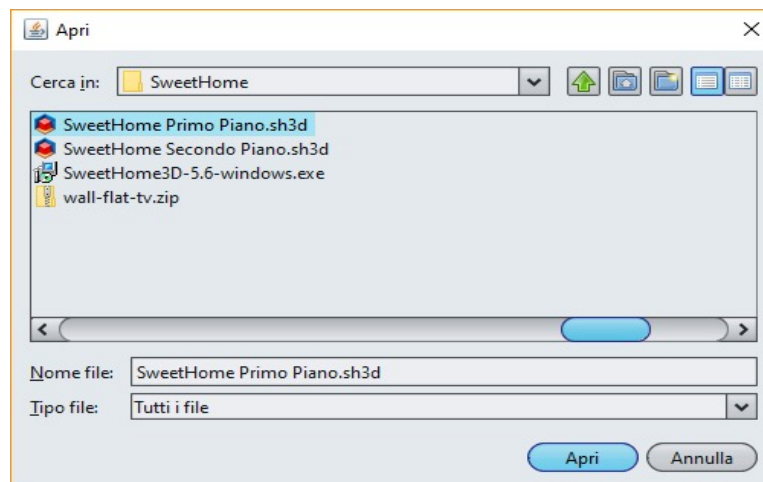

Figure 4.2: Selecting a file
- Click on Open and select a file which extension is **.sh3d** (so, you have to select some file made with **SweetHome 3D** figure 4.2);